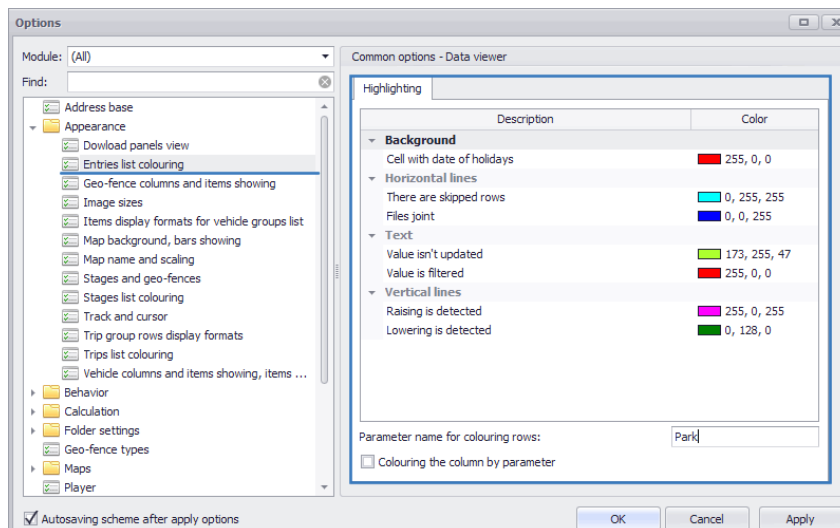

Fig. 197. Entries list colouring setup.
Data Viewer in the AutoGRAPH 5 PRO program offers the entries colouring capability. The colouring parameters can be set up in the section Appearance > Entries list colouring of the “Options” menu (**Fig. 197**).
8. Colouring of the whole entry row based on the vehicle parameter triggering. To color the entries list by parameter triggering, set the parameter for colouring – a name or an alias in the “Parameter name for colouring rows” field in the section *Appearance > Entries list colouring* of the “Options” menu (**Fig. 197**). If this parameter was enabled, then the entry made at that time will be highlighted with the color which was set for the enabled state of the parameter in the settings of that parameter (in the list of parameters in the “Devices” menu). **Fig. 199 (item 1)** illustrates an example of the entries list colouring based on triggering of the overspeed parameter.
9. Colouring of a column with the color set for the parameter graph. To enable colouring of columns, go to the section *Appearance > Entries list colouring* in the “Options” menu and enable “Colouring the column by parameter” option on the “Highlighting” tab (**Fig. 197**). An example of entries list columns colouring is shown in **Fig. 199, item 2**.